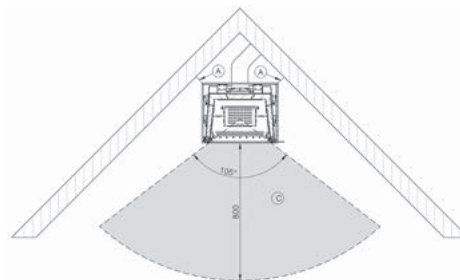

Fig. 4b
2. For installation in the corner of a room, maintain the following wall distances: If the stove is installed as shown as in Figure 4b, a minimum distance of 160 mm must be maintained to the sides of combustible components.